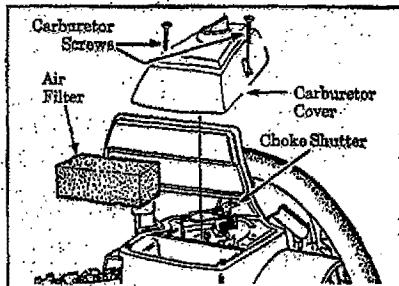

Figure 44
- 2. Remove the carburetor cover screws and carburetor cover, Figure 44.